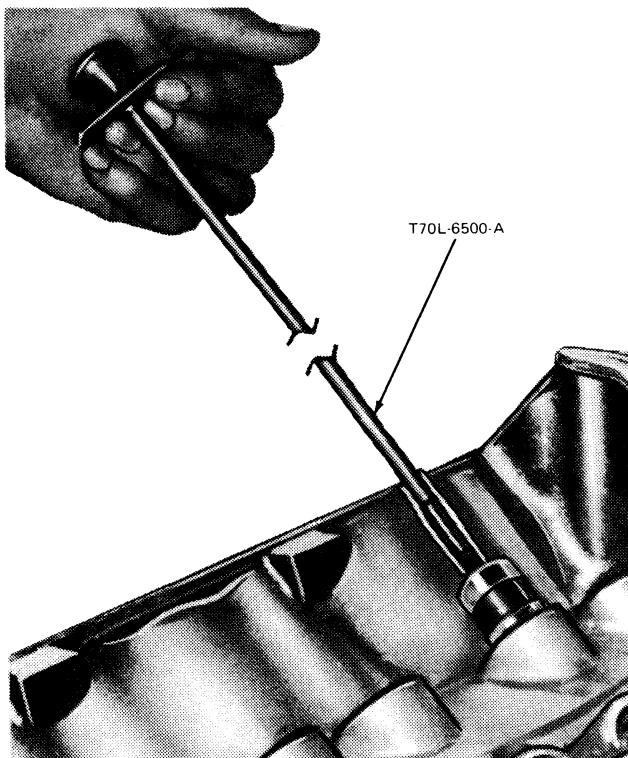

FIG. 21 Removing Valve Tappet
5. Using Tool T70L-6500-A or equivalent shown in Fig. 21, remove the tappets and place them in a rack so that they can be installed in their original bores.